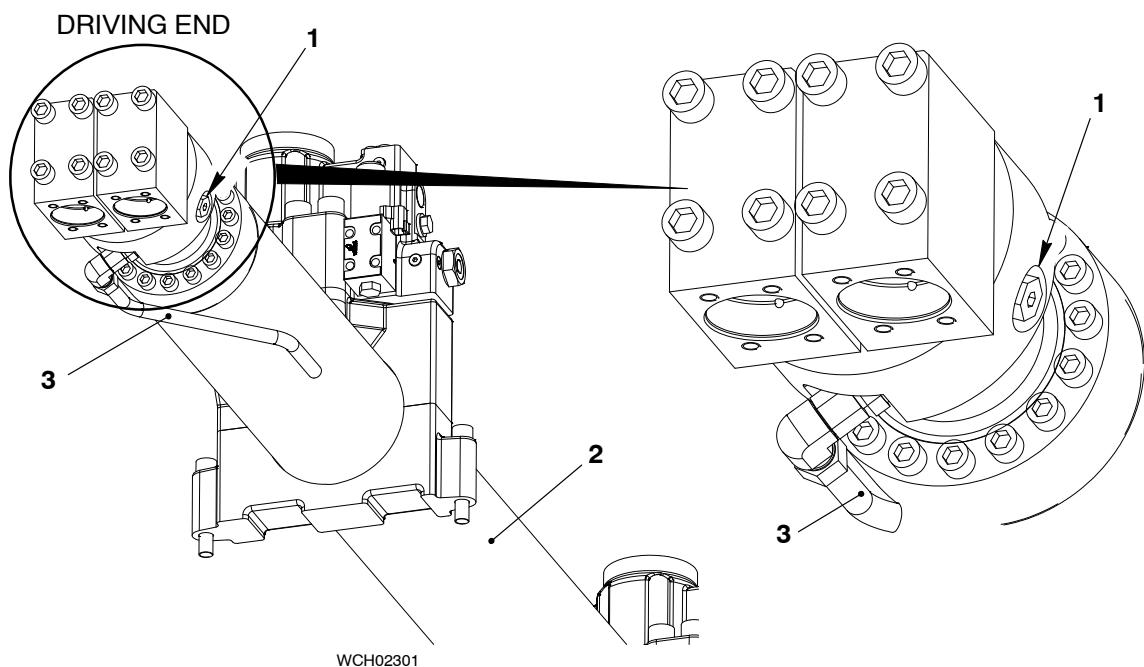

Fig. 6: Servo Oil Rail
- 1) Carefully loosen the screw plug (1, Fig. 6) a maximum of two turns.